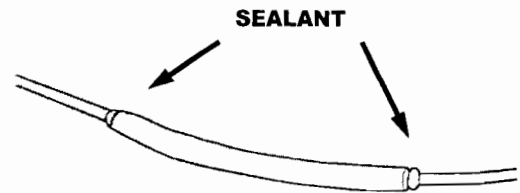

Figure 10
12. Center the heat shrink tubing over the joint and heat using a heat gun. Apply heat to the heat shrink tube until the tubing is tightly sealed and sealant comes out of both ends of the tubing (Figure 10).